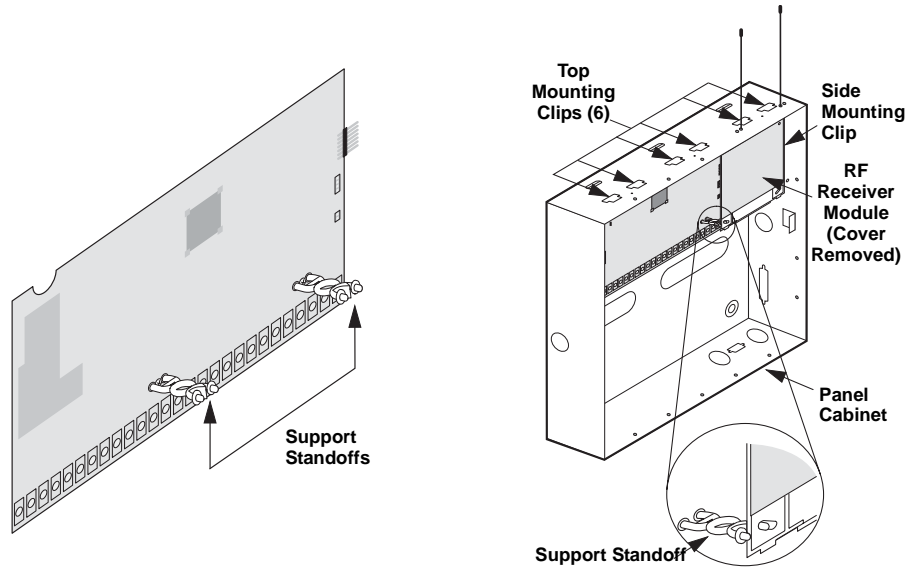

Figure 22. Installing the Support Standoffs and Mounting SuperBus 2000 Modules Inside the Cabinet (RF Receiver Shown)
- The panel includes two support standoffs you install to secure module backplates to the panel (see Figure 22).
- Install the standoffs at the locations shown in Figure 22.
- The cabinet has built-in mounting clips on the top and sides that module backplates slide onto for mounting (see Figure 22).
- One SuperBus 2000 RF Receiver can be installed inside the cabinet, but it must be mounted on the right-hand side to accommodate the antennas (see Figure 22). Additional receivers must be installed outside the cabinet.
1. Mount the receiver inside the cabinet enclosure as shown in Figure 22.